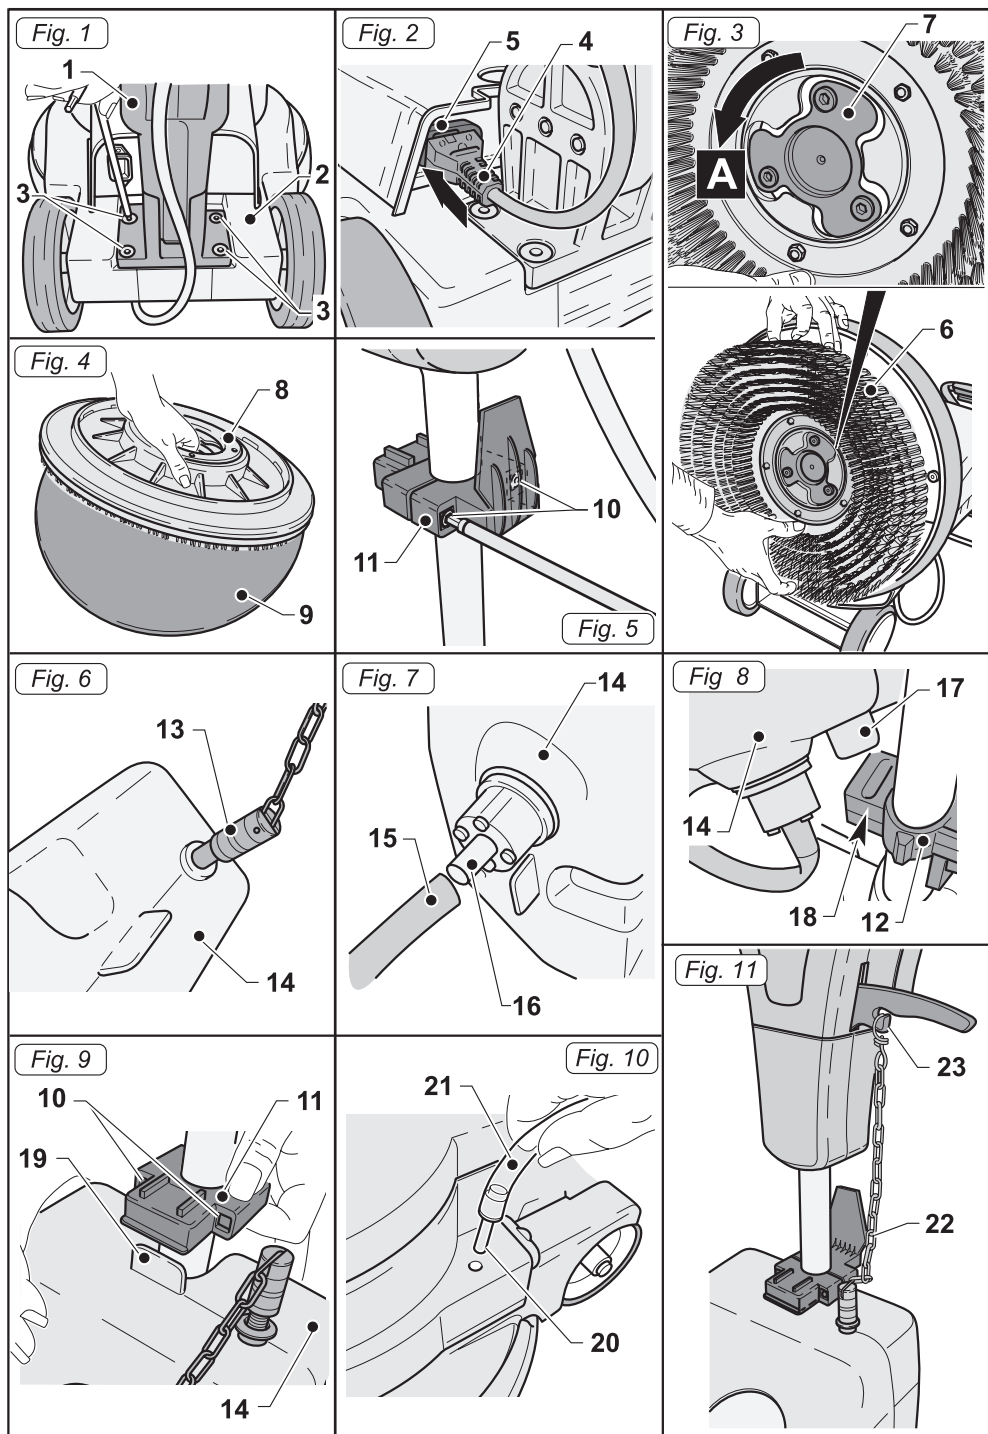

Fig 12
3.1 CONOSCENZA DELLA MACCHINA (Fig. 12)